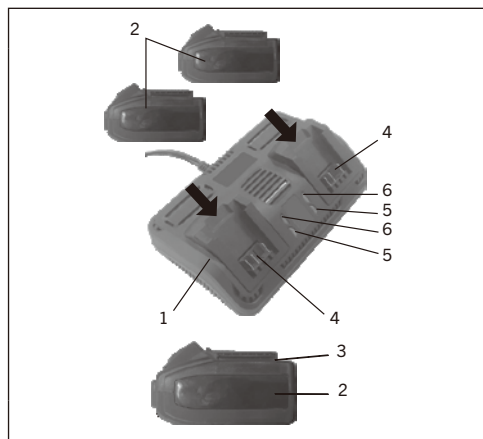

FIG. 1
1. Place the battery charger (1) in a dry location near a 110–120V 60Hz outlet (Fig.1).
- NOTE:** a) When the charger is plugged into the wall receptacle and NO battery is on the charger, the green indicator light (5) (Fig.1) will turn ON indicating the charger is “live”.
- b) When a discharged battery is installed on the charger, the green indicator light will turn OFF and the red indicator light (6) (Fig.1) will FLASH. The flashing red indicator light indicates the battery is being charged.